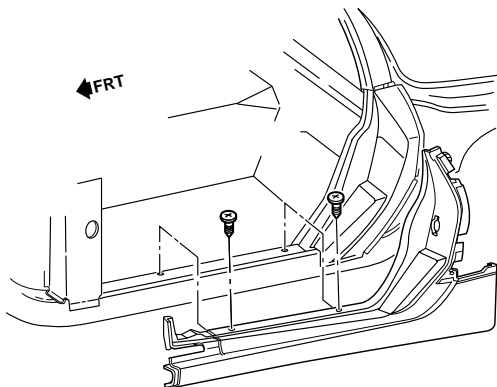

Fig. 3.36 — Install Screws to Secure Panel While Adhesive Cures. Also Apply Adhesive to the Lower Edge of Rocker to Bond at Bottom Side of Rail.
- 7 Install assembly using original screws in factory locations. The screws are necessary to secure the service part until the adhesive cures (Fig. 3.36).